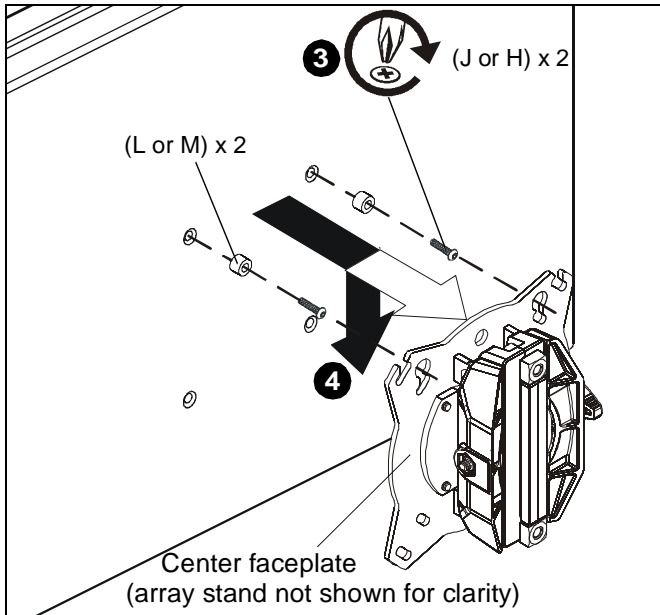

Figure 12
3. Using Phillips screwdriver, carefully install two selected screws (J or H) through selected spacers (L or M) into the *upper* mounting holes on the display. Thread screws completely into display, then back out 3 complete turns. (See Figure 12)
4. Pick up and align display so that screws (K) (installed on the back of the display in the previous step) fit into the mounting holes on the faceplate. Lower the display firmly into place. (See Figure 12)